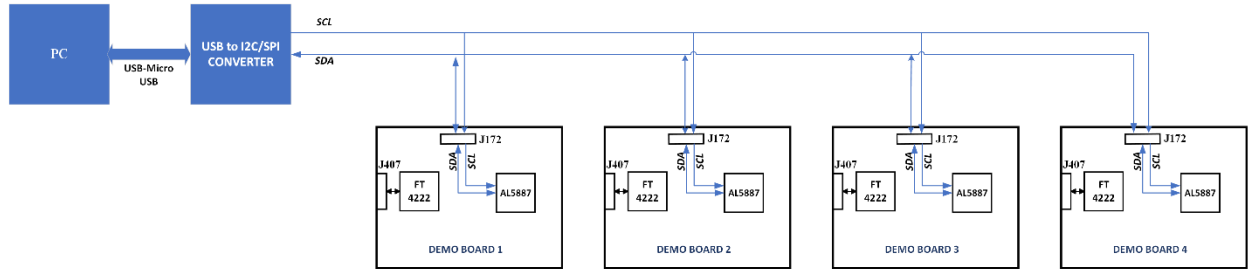

Figure10: PC to Demo board.
**Step 3:** Connect demo board to PC or Micro controller as shown in figure10 &11 at J172 connector and the connections are as follows,